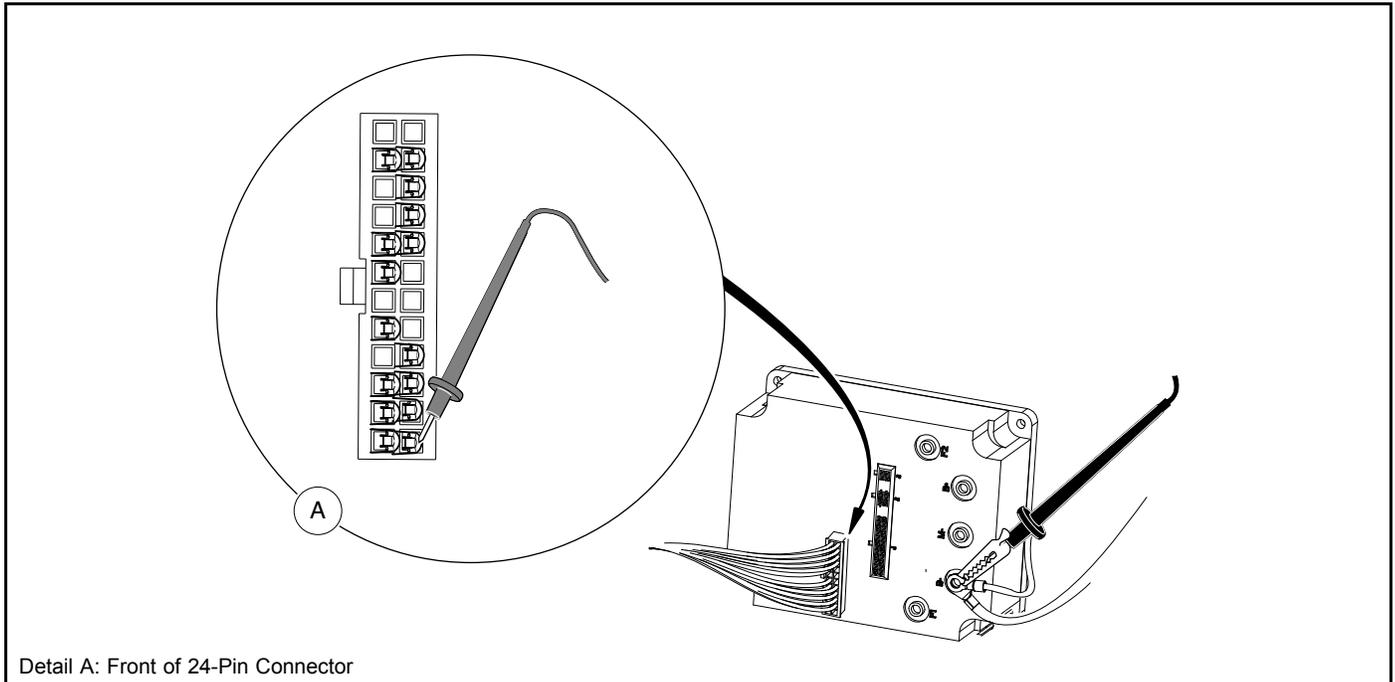

Figure 22-17 Test: Pin 1 (Tan Wire)
- With a multimeter set for 200 volts DC, insert the red (+) probe of the multimeter into pin 1 (tan wire) of the 24-pin connector. **See following CAUTION.** With an alligator clip, connect the black (-) probe to the B- terminal of the speed controller (**Figure 22-17, Page 22-27**).